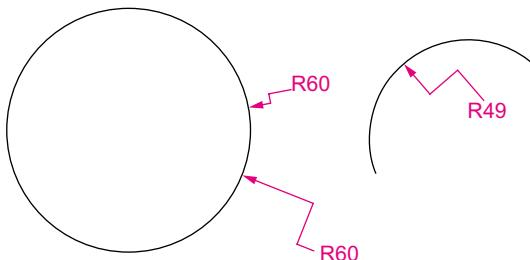

Fig. 6.16 Examples – the Jagged tool
## The Jagged tool (Fig. 6.16)
1. Draw a circle and an arc as indicated in Fig. 6.16.
The results of placing as jogged dimension on a circle and an arc are shown in Fig. 6.16.